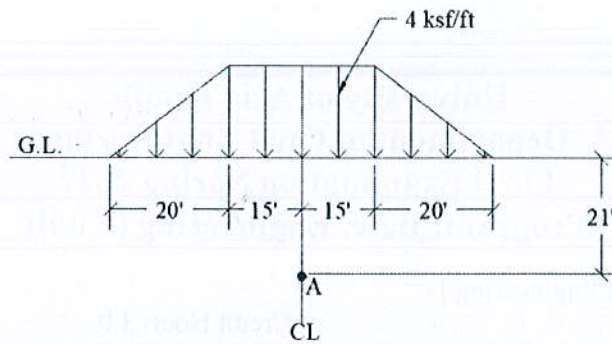

Fig. 2
- b) Calculate the magnitude of vertical pressure(ksf/ft) at "A" which is 21 feet below the ground level due to an embankment loading shown in Fig.2